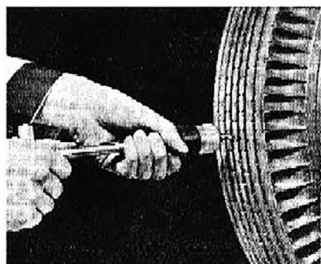

Fig. 74
1. With a tire sealing gun, fill injury with liquid rubber by holding gun tip firmly against puncture and forcing sealant through to opposite side of tire (fig. 74).